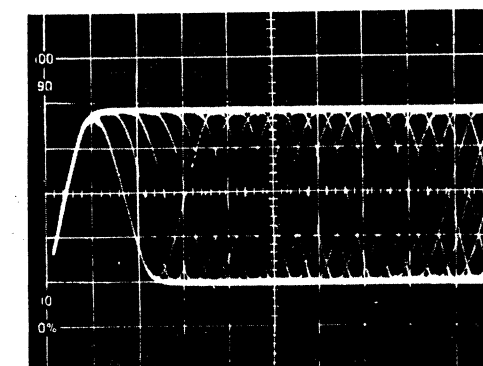

Fig 4-12. RF Signal
2. Connect the oscilloscope to TP107 of SL-P7 or CN109 pin ③ / RF test pin of SL-P8.
4. Confirm that the RF signal is as shown in Figure 4-12. If it is not present, proceed to next step. If RF signal is as shown, skip step 5.